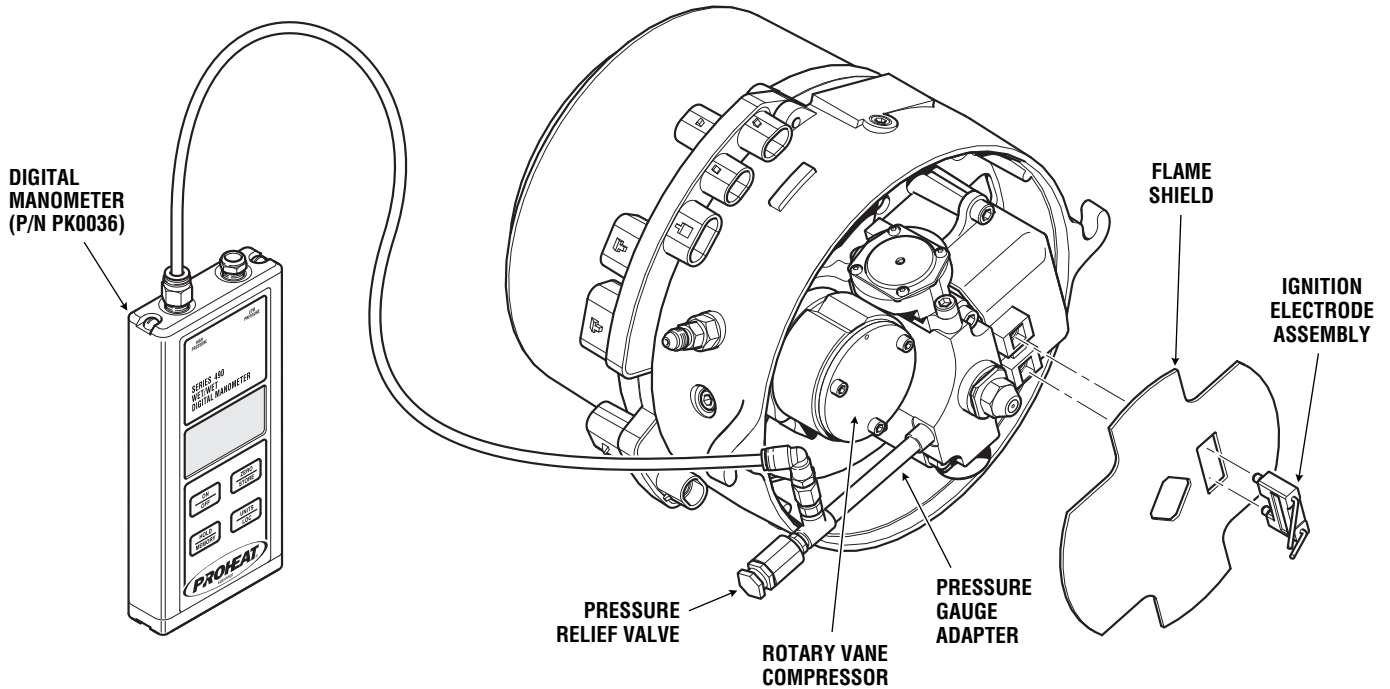

Figure 4-16: Air Pressure Test. Rotary Vane Compressor Model.
Ensure to orient burner head as shown in Figure 4-16 or an incorrect pressure measurement may be made.
- h) Thread in Pressure Gauge Adapter hand tight as shown in Figure 4-16.